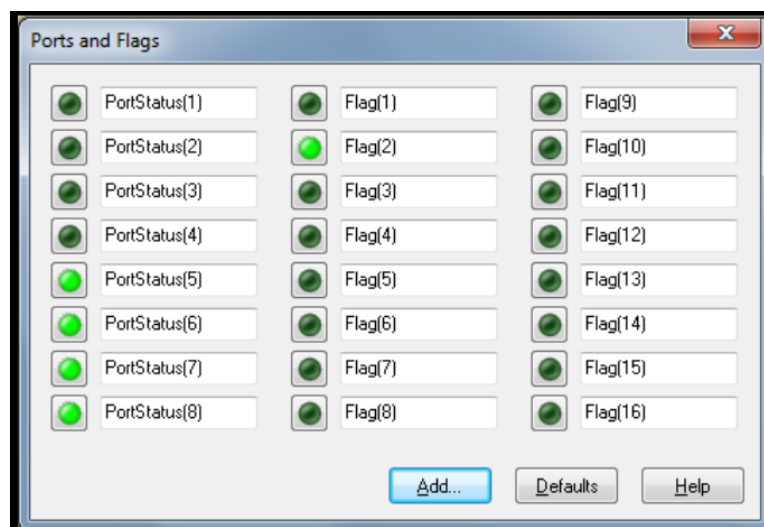

Figure 48. Flag 2 (High)
5. Turn **Flag [1]** on (high) then **Flag [2]** on (high) by clicking on the green dot/light icon. This stops the AIS Buoy from profiling and places the Profiler system into Setup Mode, keeping it in idle (PARK) mode for the duration of the procedure. Figure 48 is an example of when **Flag [2]** is on (high) (this may take a minute to display).